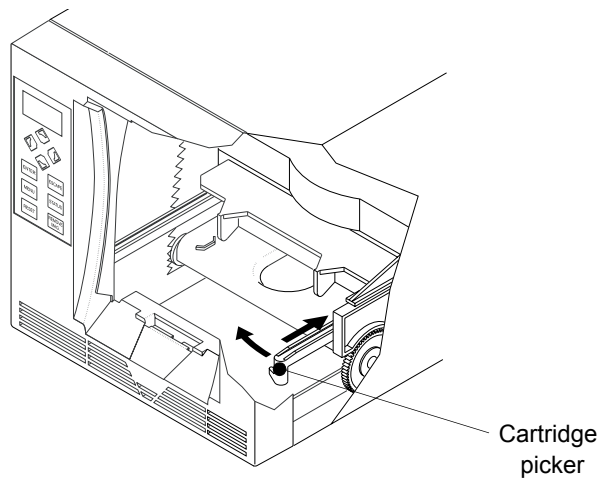

Figure 7-2 Positioning the picker for shipping
- a. Push the picker toward the back of the autoloader until it stops (see Figure 7-2).